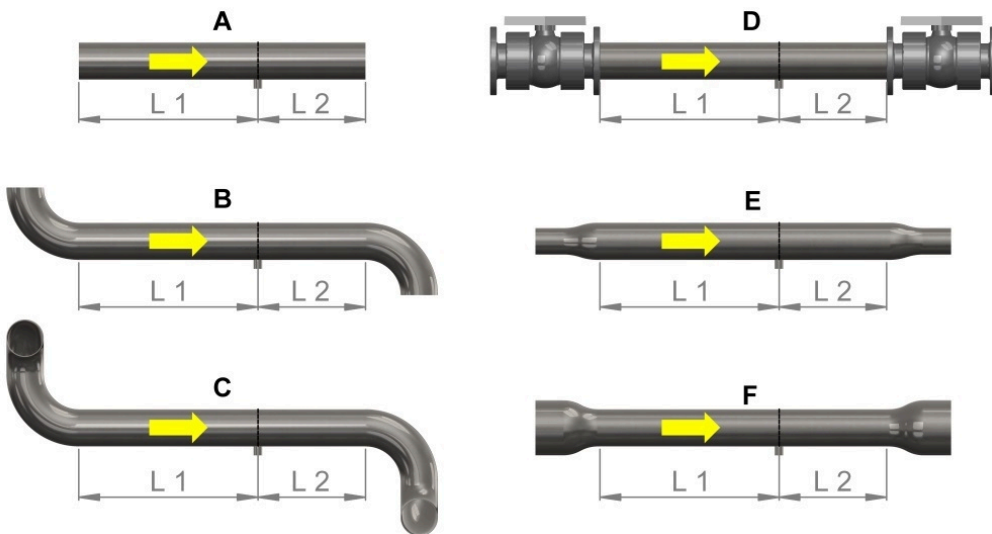

Figure 10: Inlet and Outlet Sections Flow Sensor AwiFLOW
Note Tab. 4 and Fig. 10 **the information given is a recommendation and is based on well-founded series of measurements. But there is always the possibility of changed circumstances, which might require other factors. Therefore Awite shall not be liable for any deviations of the flow profiles.**
| < 150mm | 20 x pipe Ø | 10 x pipe Ø | Fig. 10 (A) |
| < 150mm | 15 x pipe Ø | 7.5 x pipe Ø | Fig. 10 (B) |
| < 150mm | 20 x pipe Ø | 10 x pipe Ø | Fig. 10 (C) |
| < 150mm | 20 x pipe Ø | 10 x pipe Ø | Fig. 10 (D) |
| < 150mm | 20 x pipe Ø | 10 x pipe Ø | Fig. 10 (E) |
| < 150mm | 15 x pipe Ø | 5 x pipe Ø | Fig. 10 (F) |